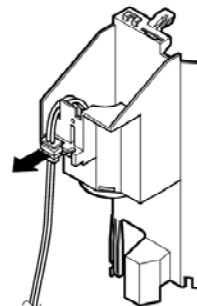

Figure 29
5. Pull the power cord. (See Figure 29)